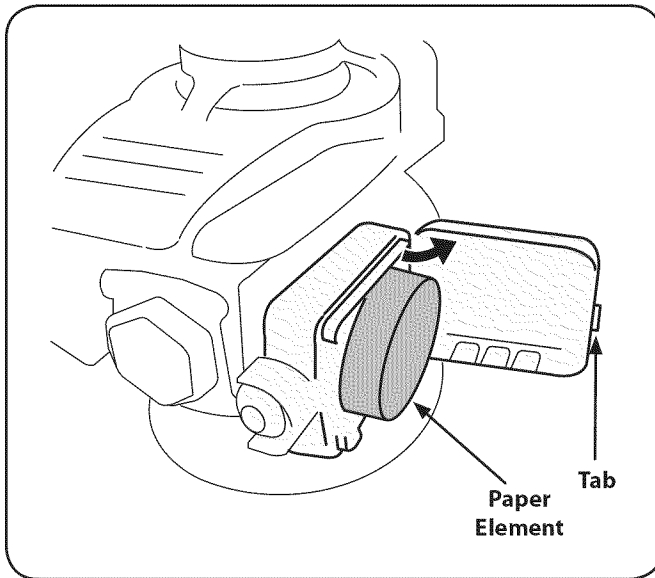

Figure 6-3
- Remove the air filter cover by squeezing the front and back sides to release the tab at the front of the air filter cover. See Fig. 6-3. Clean foam element or replace when damaged.